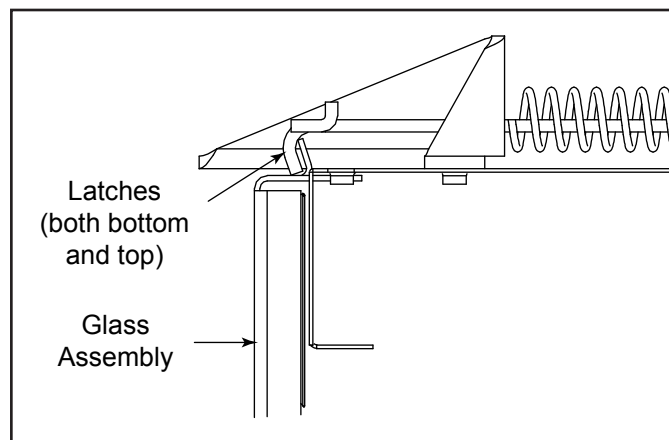

Figure 4.1 Glass Assembly
- Pull the four (two upper and two lower) glass assembly latches out of the groove on the glass frame. See Figure 4.1.